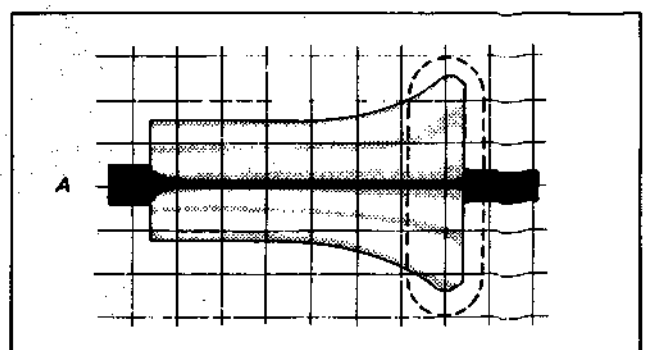

Fig. 4-12.
- When the waveform is outside this range and has the form shown in Fig. 4-12, turn the tilt adjustment screw counterclockwise to adjust until the waveform is within the required range.
- When the exit free waveform is outside of the required range and has the form shown in Fig. 4-13, turn the tilt adjustment screw counterclockwise to produce waveform A (Fig. 4-12), then turn it clockwise to bring the waveform within the required range.
- 8) If the RF output waveform is as shown in Fig. 4-12 on the exit side, repeat the adjustment.